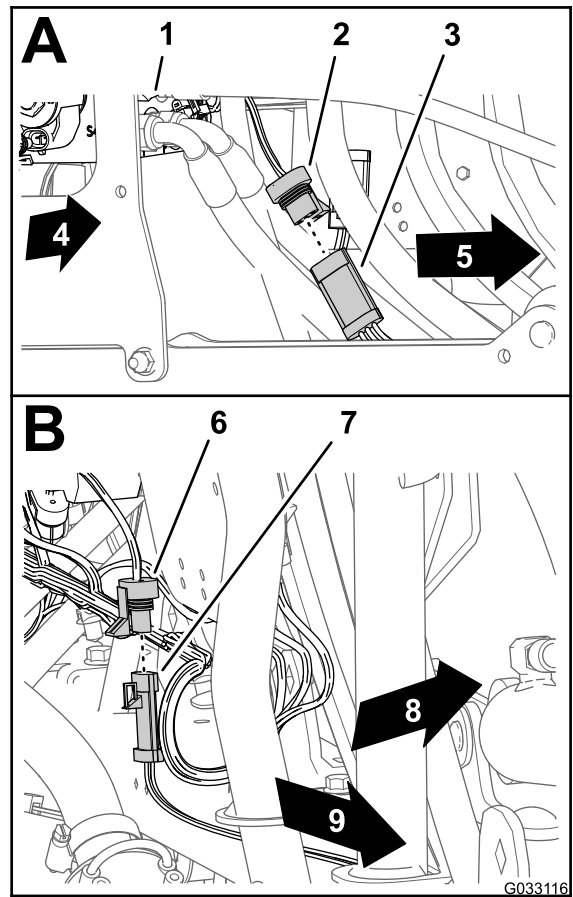

Figure 147
1. Connect the 3-socket connector of the sonic boom wire harness to the 3-pin connector of the cable for the right ultra-sonic sensor (A of Figure 147).
2. Connect the 3-socket connector of the sonic boom wire harness from the 3-pin connector of the cable for the left ultra-sonic sensor (B of Figure 147).